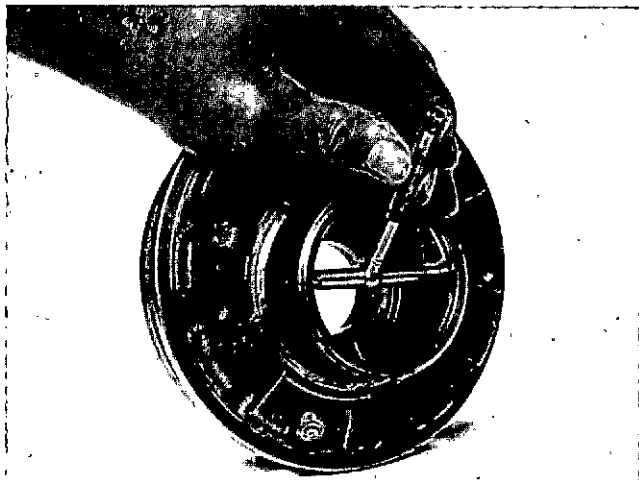

Fig. 8-7 (N10850). Measure The Bore In The Housing.
7. Check the water pump housing for wear and damage. Make sure the weep hole in the housing is open. Measure the bore in the housing, Fig. 8-7. Discard the housing if the bore is larger than 2.4494 inch [62.215 mm].